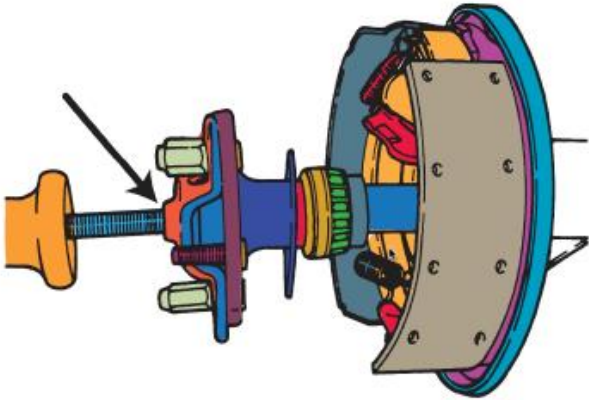

Figure 37. Remove the axle using a slide hammer.
- Use a slide hammer to remove the axle. Figure 37.